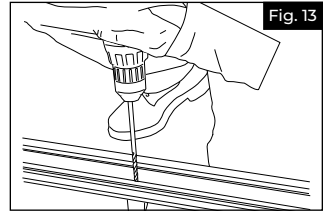

Fig. 13
- c. Pre-drill using a ¼" drill bit through the beam (Fig. 13). Screw through the bottom beam (C) and bottom rail support (M) into the standing surface with the #12 x 5" screws provided (H). Do not over-tighten.